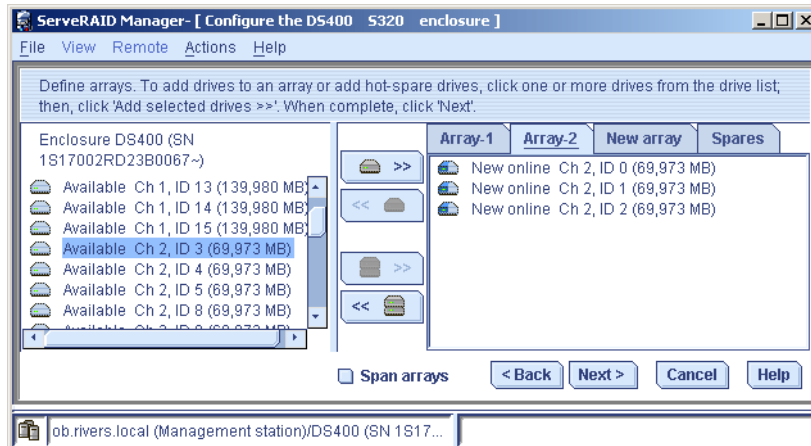

Figure 4-92 Array-3 with three drives
7. The selected drives will be added to the new array and the array is named **Array-2**. A new tab named **New array** is created. See Figure 4-92 on page 135.